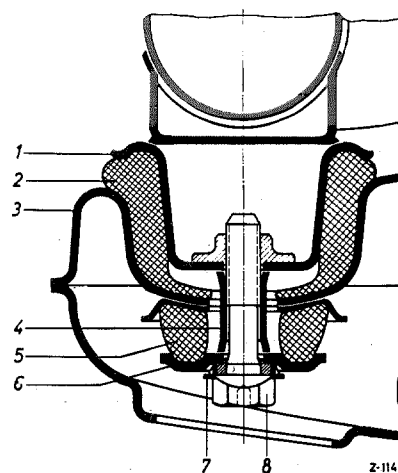

Fig. 01 — 2/11
Note: Do not omit the sealing ring (3) between center cross and the propeller shaft flange (see Fig. 01 — 1/11).